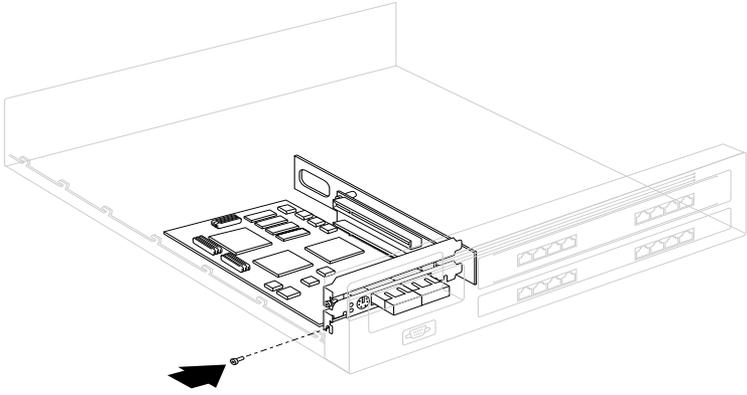

Figure 7: Uplink Card Attachment to Chassis
- Using the screw from Step 6, secure the uplink card to the chassis (Figure 7).